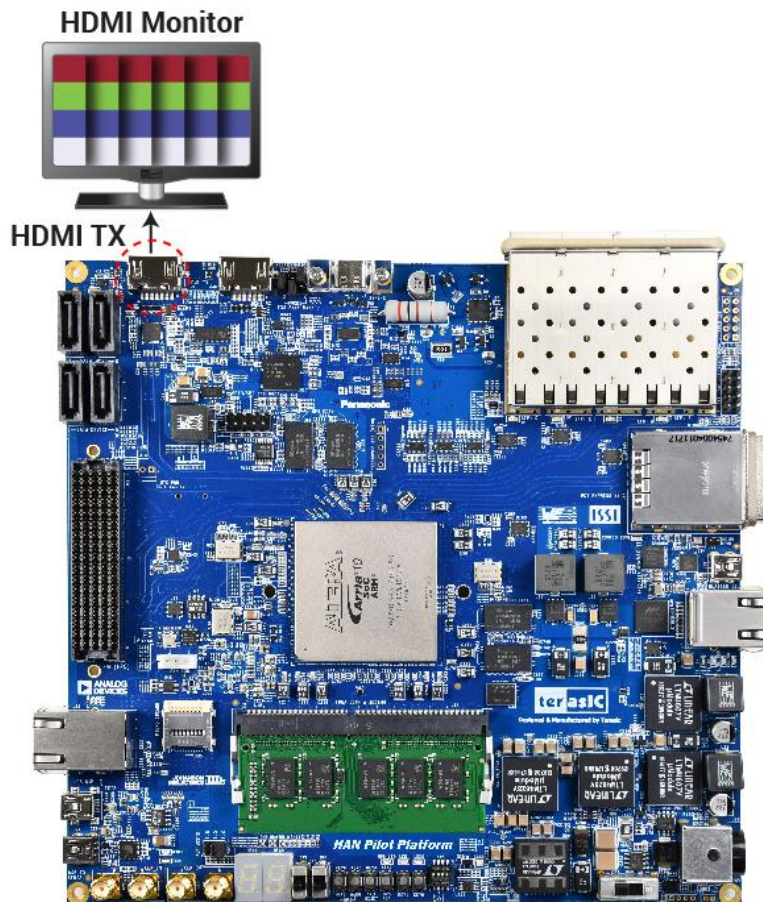

Figure 2-26 Test color pattern is shown on the HDMI monitor
7. Check if the test color pattern is shown on the HDMI monitor (See **Figure 2-26**).